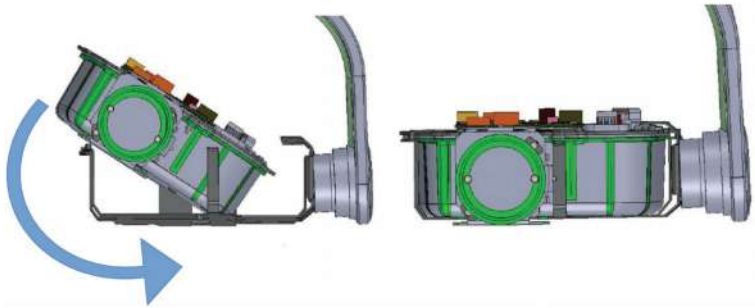

Figure 68
- Insert the H V Tank into the clamp by sliding from the side as shown in Figure 68 .